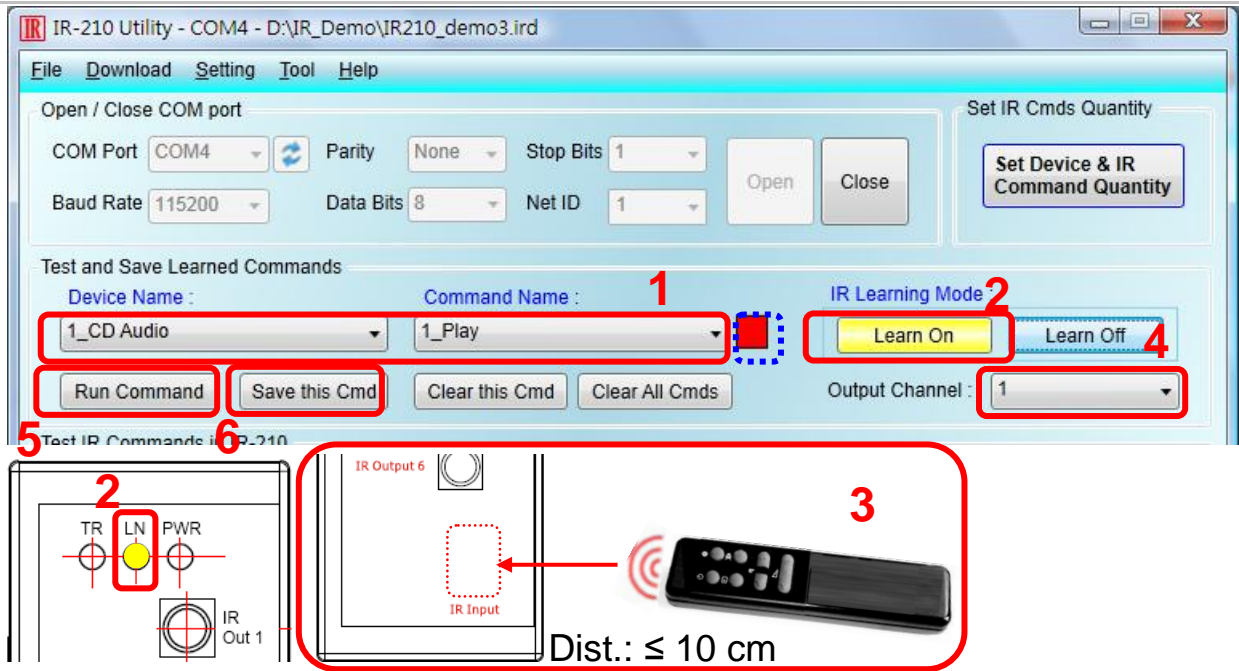

Fig. 12: IR Learning Steps
Learning steps are as follows and refer to Fig. 12:
- (1) Select the IR command item from “Device Name” and “Command Name” ComboBoxes.
- (2) Click “Learn On” button to enable IR learning mode where LN LED is ON.
- (3) Aim the emitter head of the remote control (RC) to the “IR Input” position of IR-210’s front panel and push the RC’s button which is to be learned. The distance between IR-210 and RC should be less than 10 cm. After IR learning is finished, the LN LED is OFF. The learning result is sent back to Utility.
- (4) Select the item of IR output channel combobox, e.g. IR Output 1 is selected.
- (5) Aim the IR emitter, which is plugged in IR Output 1 jack, at the IR receiver of the controlled device. Click “Run Command” button to check the effectiveness of IR learning command. Repeat step 2 and 3 if there is no action on the device.
- (6) Click “Save this Cmd” button to save the learning data to the item of “Command Name” combobox, e.g. the item in Fig. 12 is “Play”.